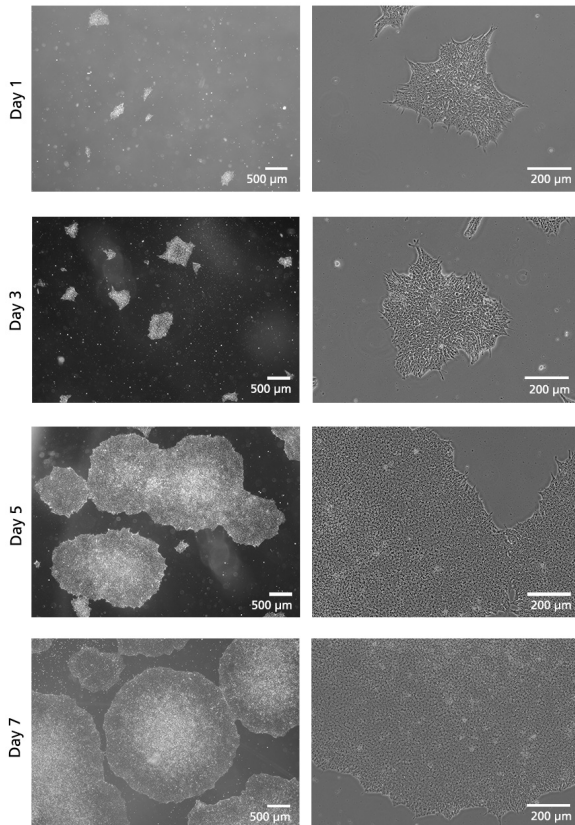

Figure 1. Recovery of SCTi005-A iPSCs on Days 1 - 7 After Thaw.
13. Perform medium changes as desired using mTeSR™ Plus and visually assess cultures daily to monitor growth and morphology. See Figure 1 for expected growth characteristics during the first seven days after thawing. Medium can be changed daily, every other day, or up to two consecutive days of feeding can be skipped when using mTeSR™ Plus. To skip two consecutive days of feeding, add twice the volume of medium.